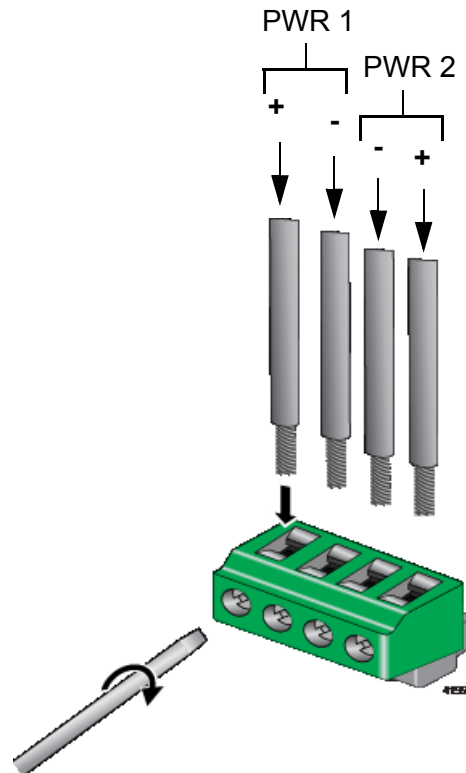

Figure 49. Inserting the Wires into the PWR 1 - PWR 2 Cable Connector
5. Insert the wires into the connector and tighten the retaining screws to secure the wires. Refer to Figure 49.